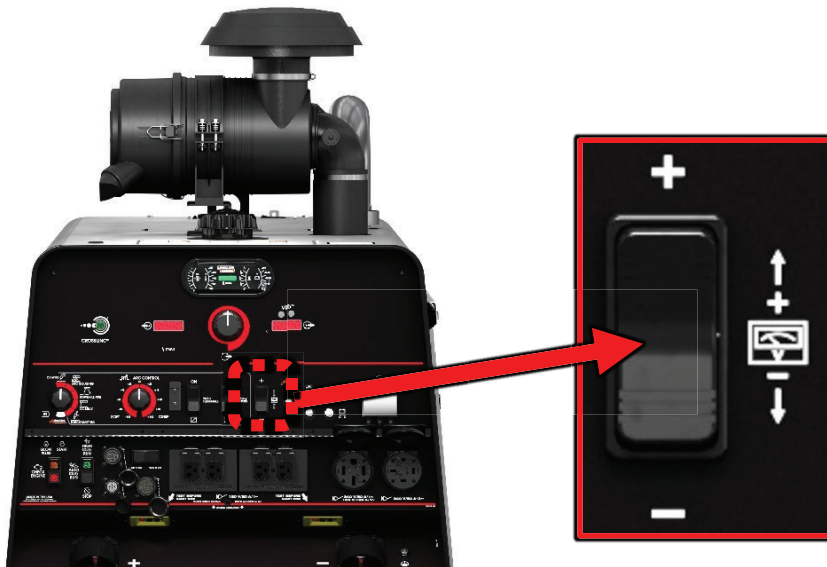

Figure F.1
1. For location of the Polarity Switch refer to Figure F.1.